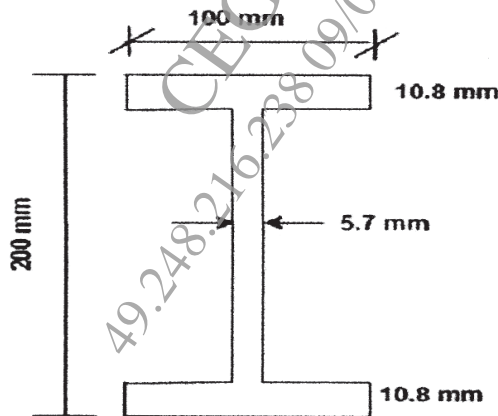

Figure 10
- Q8) a) Calculate plastic section modulus, shape factor and plastic moment for the figure 10. [13]